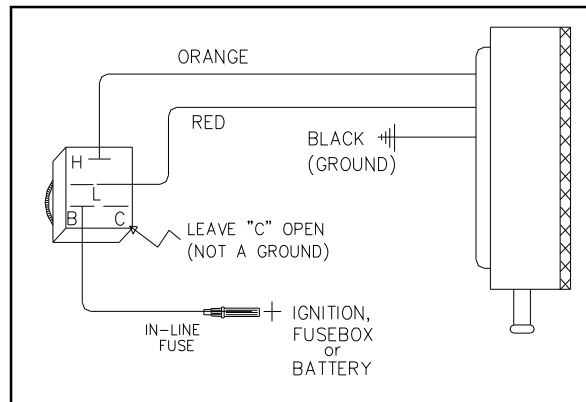

FIG. 13
**ELECTRICAL CONNECTIONS: (see fig. 13)**